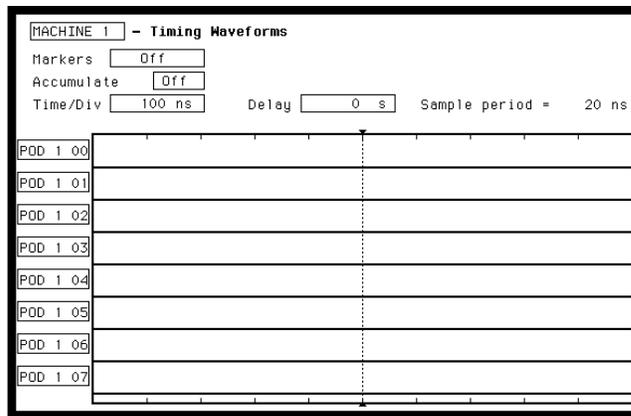

Figure 3-39. Threshold Accuracy Timing Waveforms 2
8. Press RUN. Data displayed on **Timing Waveforms** is all low for the channels under test as in figure 3-39.
16. Press RUN. Data displayed on **Timing Waveforms** is all high for the pod and channels under test as in previous test figure 3-39.